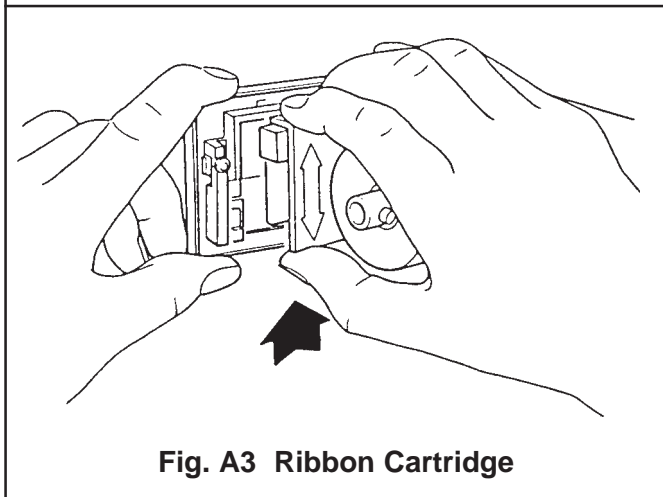

Fig. A3 Ribbon Cartridge
Ribbon Cartridge Renewal (Figs. A3 and A4)
- b Support door with left hand and press upwards with right hand on bottom of printer mechanism chassis (Fig. A3) and separate chassis from door.